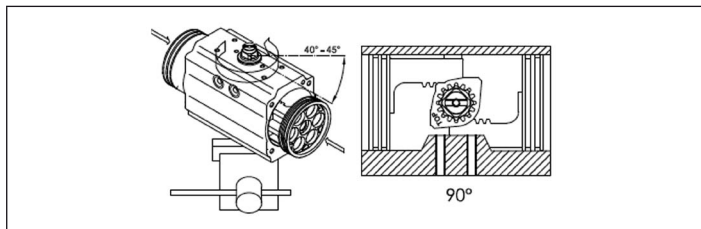

Fig. 14: Housing clockwise
- If installation is in the standard direction of rotation, design ST (closing clockwise), rotate the housing (Pos. 50) by 40-45° clockwise (see Fig. 14:),